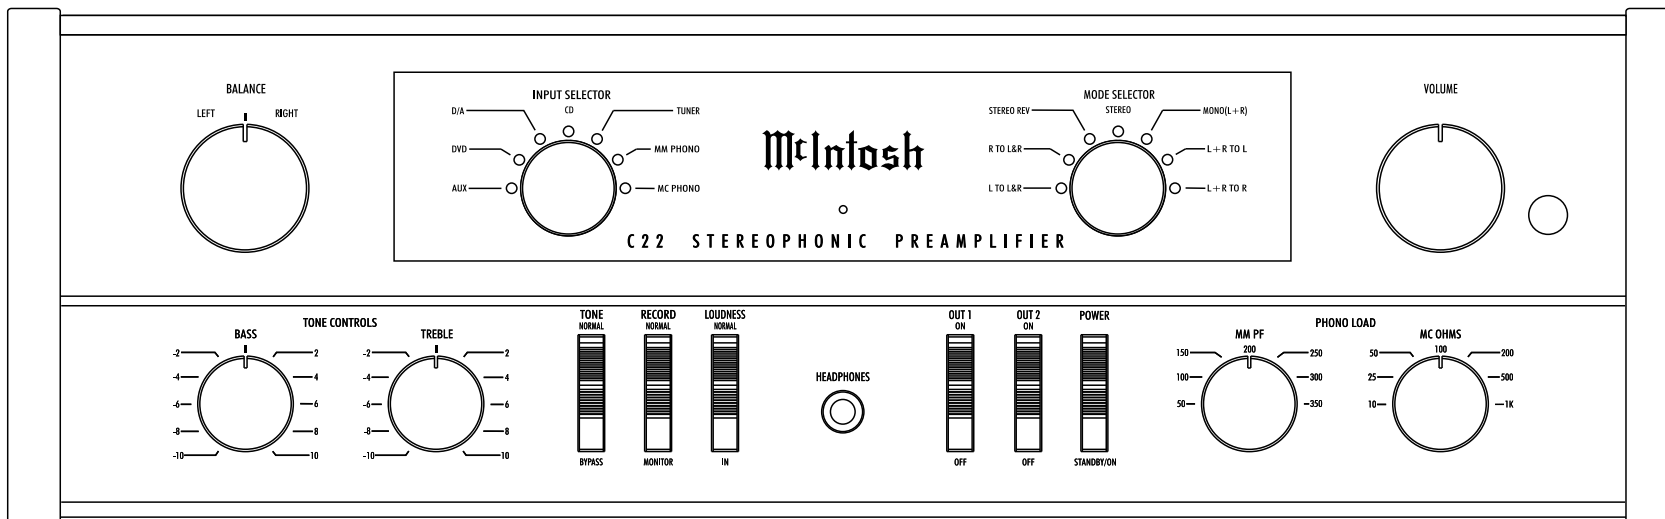

Figure 2
1. Use the Input Selector to choose the desired Source Input Signal you wish to record. Refer to figure 2.
3. To listen to the playback of the program source just recorded, place the RECORD switch on the front panel to the MONITOR position. The Front Panel INPUT SELECTOR LED will flash indicating the Input Source selected for recording. During the time the RECORD Switch is in the MONITOR position Source Selection is not possible, either by using the Front Panel INPUT SELECTOR or Remote Control INPUT Up▲ or Down▼ push-buttons. Refer to figures 2 and 3.